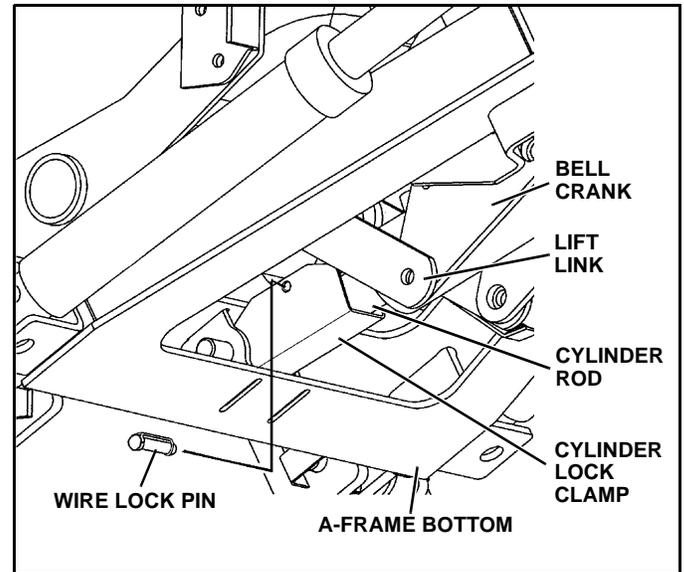

Figure 1-24
5. Position the cylinder lock clamp around the exposed (chrome) portion of the lift cylinder with the open side of the cylinder lock up. Install the pin. (See Figure 1-24)